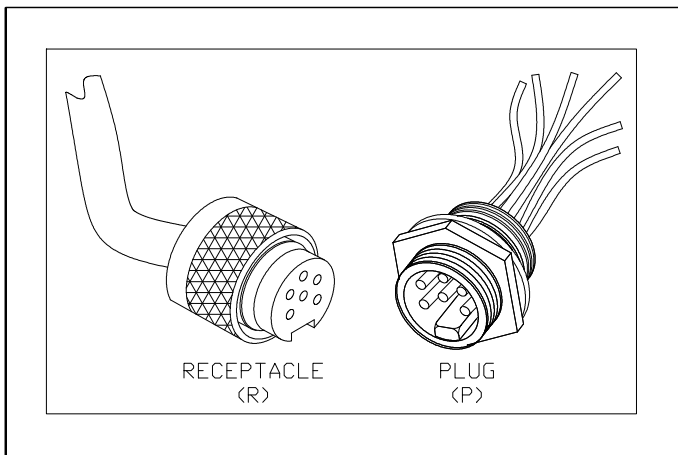
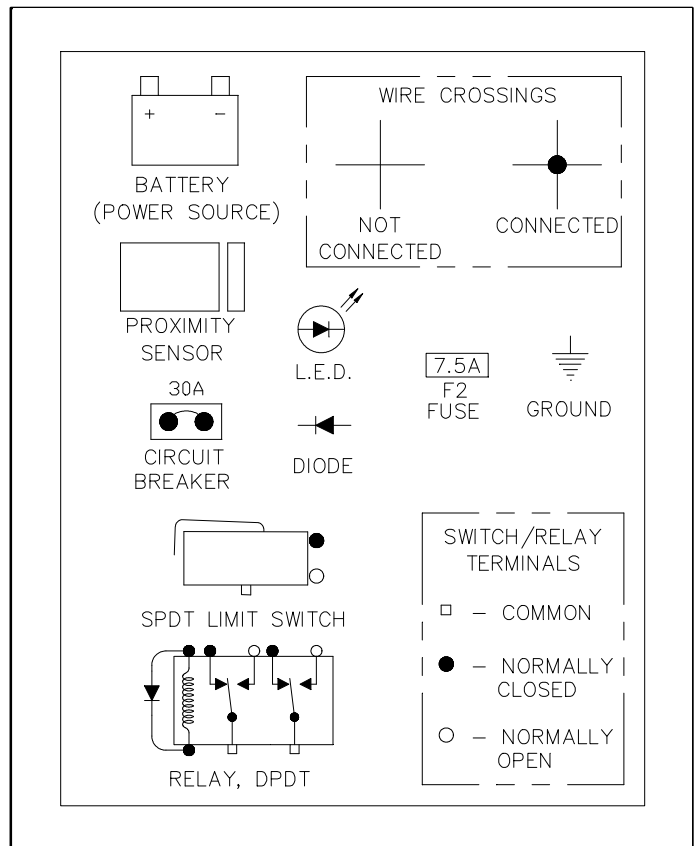

FIGURE 3-5: CONNECTOR CONFIGURATION
FIGURE 3-6: SCHEMATIC SYMBOLS
- ? Refer to **Figure 3-10** for an overall electrical schematic of the ramp system, including that portion supplied by the bus builder. Refer to **Table 3-5** for wire color codes used on schematic. Refer to **Figure 3-5** for a description of plug and receptacle designations used on schematic. Refer to **Figure 3-6** for an explanation of schematic symbols used.